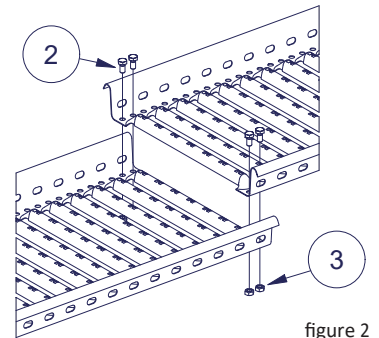

figure 2
- The extension of the walkways shall be done by overlapping and securing the connection from both sides by using 2 pcs of M8x16 hexagon bolts and M8 hexagon nuts (figure 2).